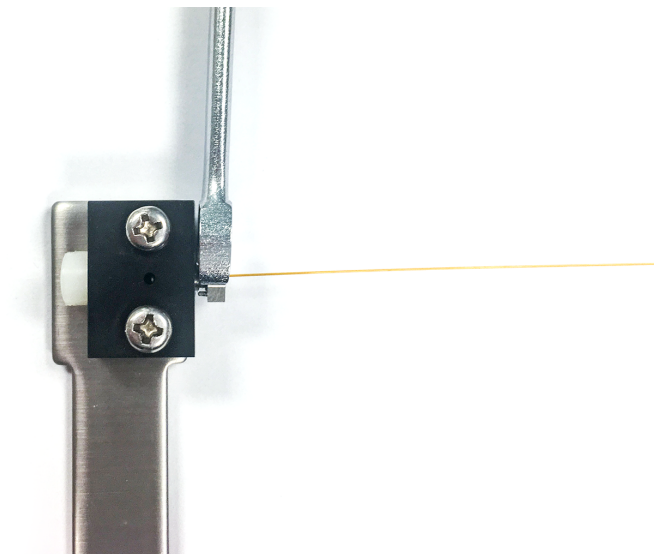

Figure 11. Tighten the internal nut
- c. Check if the ferrule is gripping the column. If yes, stop. If not, continue to tighten the internal nut in small 5- to 15-degree increments. Check after each increment to see if the ferrule is gripping the column. Stop as soon as gripping occurs. See Figure 11.